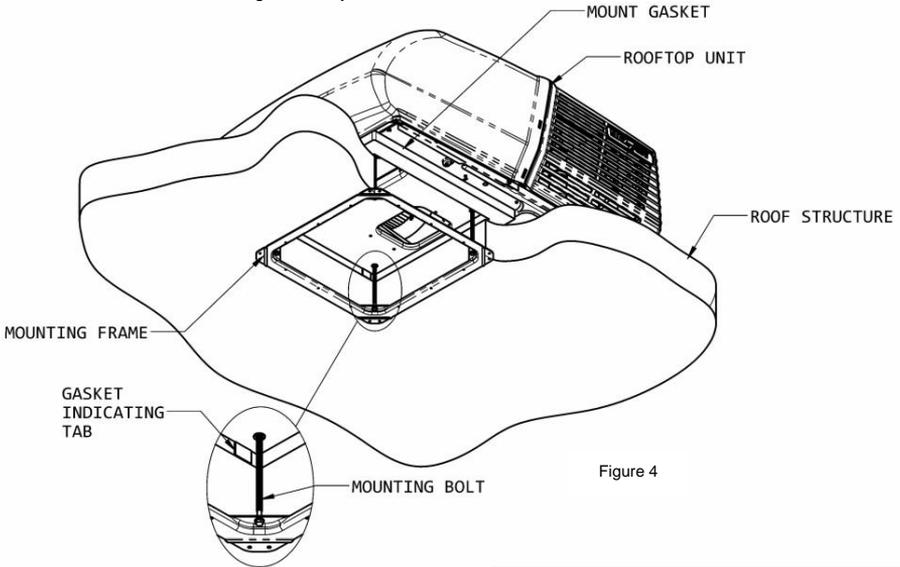

Figure 4
Follow the steps below to secure the Heat Pump to the roof. Refer to Figure 4.
3. Proper tension has been achieved for each bolt when any portion of each gasket indicating tab has been pulled down even with the roof. See Figure 4.